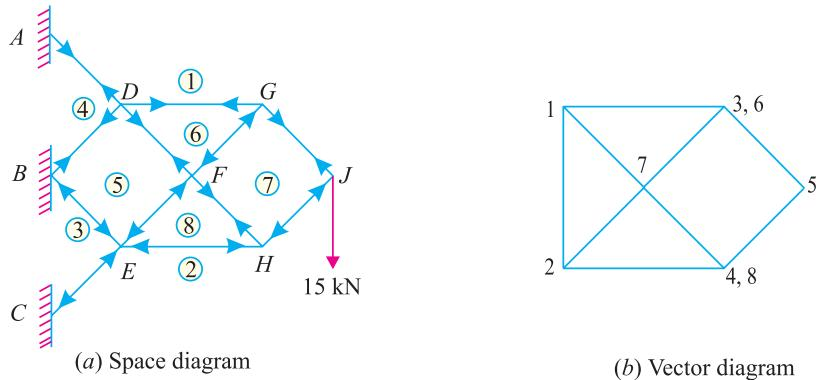

Fig. 14.30.
**\*Solution.** First of all, draw the space diagram and name all the members and forces according to Bow's notations as shown in Fig. 14.30 (a).
Now draw the vector diagram as shown in Fig. 14.30 (b), starting from the joint J. Measuring the various sides of the vector diagram, the results are tabulated here :